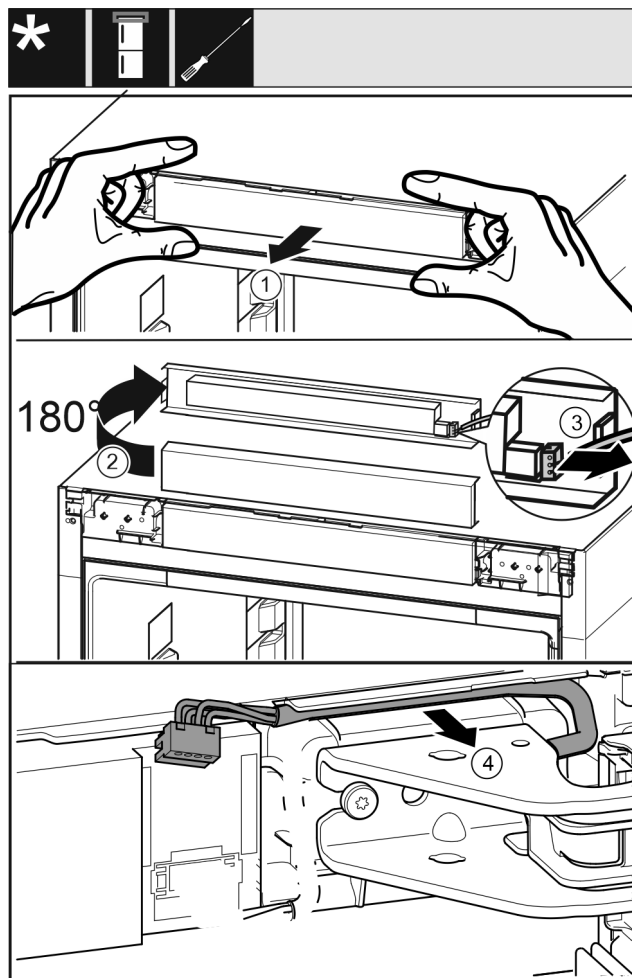

Fig. 18
- ▶ Carefully release the control panel trim Fig. 18 (1) forwards.
- ▶ Turn the control panel trim Fig. 18 (2) upwards by 180°.
- ▶ Push the locking tab Fig. 18 (3) backwards and remove the plug carefully.
- ▶ Release the cable over the swap bearing block Fig. 18 (4) from the guide carefully.